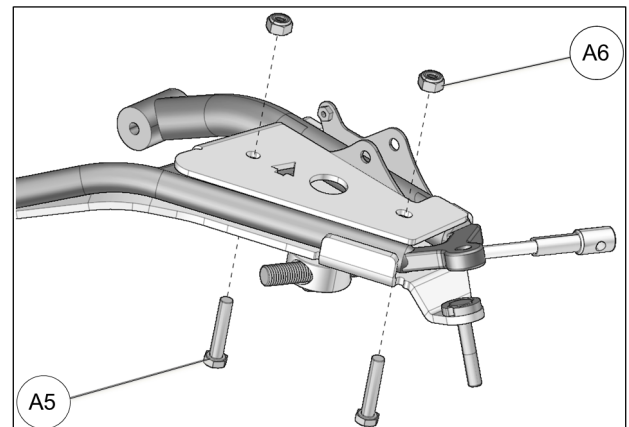

Fig. 20
12. Insert the M10x50 mm bolts (A5) through the bottom and secure the two parts together with the nuts (A6) provided. Tighten assembly to 50 N•m [37 lb•ft] of torque. See Fig. 20